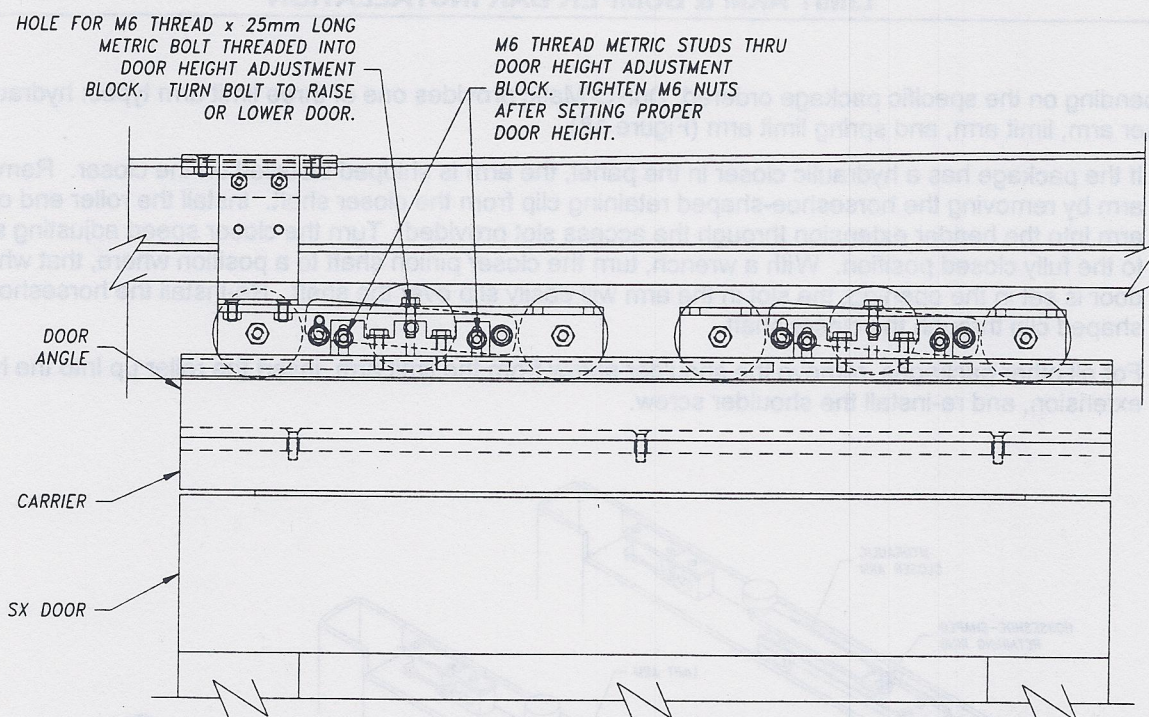

FIGURE 15: Door (SX) Height Adjustment
5. To adjust door height, keep the M6 metric nuts loose and turn the M6 x 25mm metric bolt (RH to raise the door, LH to lower the door). To keep the door level, be sure to adjust both roller assemblies on each door. After finding the correct, level height, secure the assembly in place with the M6 metric nuts (Figure 15).